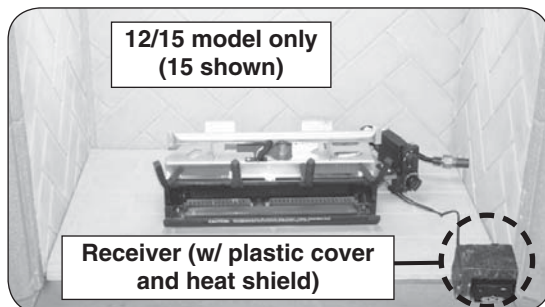

Fig. 16-4 Place remote receiver
3. **Place the remote receiver at the front right corner of the fireplace.** Place as far from the burner system as possible. See Fig. 16-4.
4. Place the plastic cover over the remote receiver with the open side facing forward to allow access to the receiver controls. Then place the decorative heat shield. See Fig. 16-4.